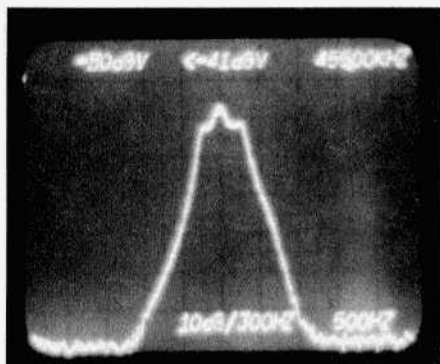
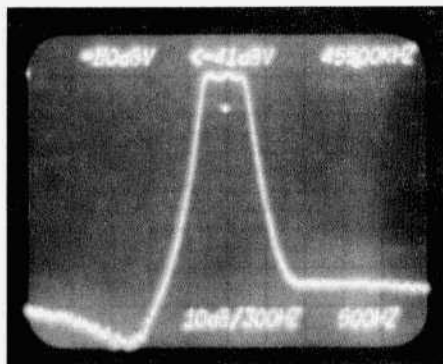

Figure 1
Figure 2
The 500 cycle CW filter curves are shown in figures 2 through 4. It is the only one I was able to directly compare
Figures 1 and 2 were made with the analyzer set at 10 dB per vertical division to show the entire filter response. Figure 1 is the original 500 cycle A-4 filter, and figure 2 is the Longwave (LW) filter. Notice the peaked response of the Collins filter, and the nice flat response of the LW filter. The LW filter curve is slightly asymmetrical, but the aberration is so far down on the response